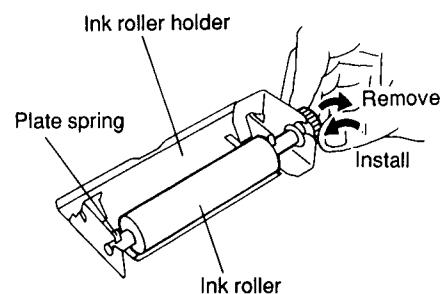

Fig. 2
3. Remove the ink roller from the ink roller holder and install a new ink roller instead. (Fig. 2)
3. Pour two or three drops of ink through the ink inlet provided on the back of the logo stamp. (Fig. 2)